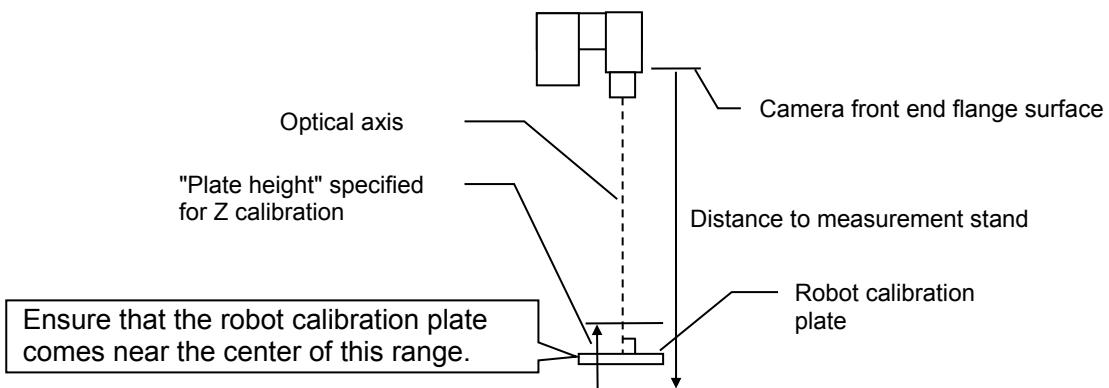

Fig. 7-71 Distance to robot calibration plate
Do not change the height of the camera lens and the robot calibration plate for teaching of the calibration postures (2) to (6) from the height used for the posture (1). For the calibration postures (7) and (8), ensure that the height of the robot calibration plate is kept within the range shown in Fig. 7-71.
(1) to (5): Move the XY-axis and align with the teaching guide. Do not change the A, B, or C components.
(7), (8): After moving the B-axis ±20°, move the XY-axis to align it with the teaching guide.
- For teaching of the calibration postures (2) to (6), do not change the Z component for the position taught at the posture (1). For the calibration postures (7) and (8), ensure that the height of the robot calibration plate is kept within the range shown in Fig. 7-71.
- When teaching the calibration postures (2) to (8), it is easy to align the calibration jig with the teaching guide by jog operation after moving to the position of the taught calibration posture (1).
- With the calibration postures (7) and (8), tilt the robot by approximately 20°, if there is sufficient space within the movement range. Tilt by approximately 15°, however, if the robot movement range is insufficient.